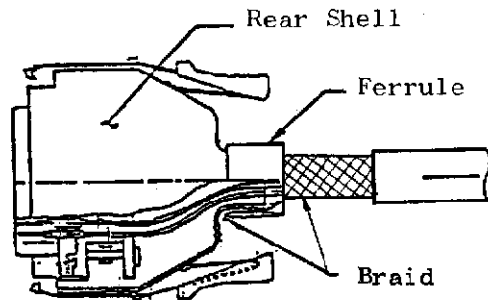

Fig. 12
6.3 Slide the ferrule down to cover the applied shells and braid as shown in Fig. 12.